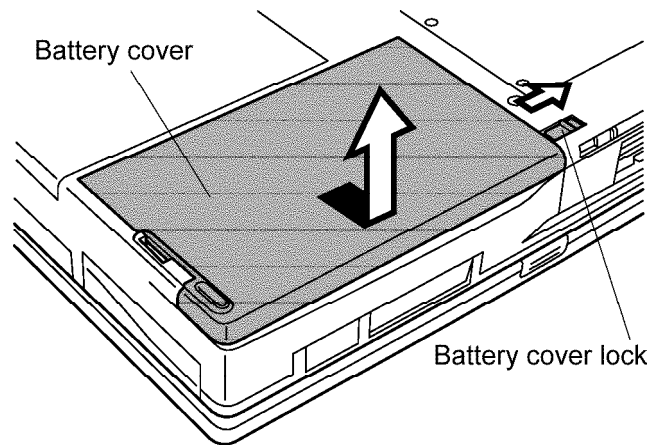

Figure 4-1 Removing the battery cover
To remove the battery pack, follow the steps below and refer to Figures 4-1 and 4-2.
3. Slide the **battery cover lock** fully in the direction of the arrow (Fig. 4-1). Lay the **battery cover** in place so that there is about a 1 cm gap between the edge of the cover and the computer. Slide the cover in until the locks click into place.